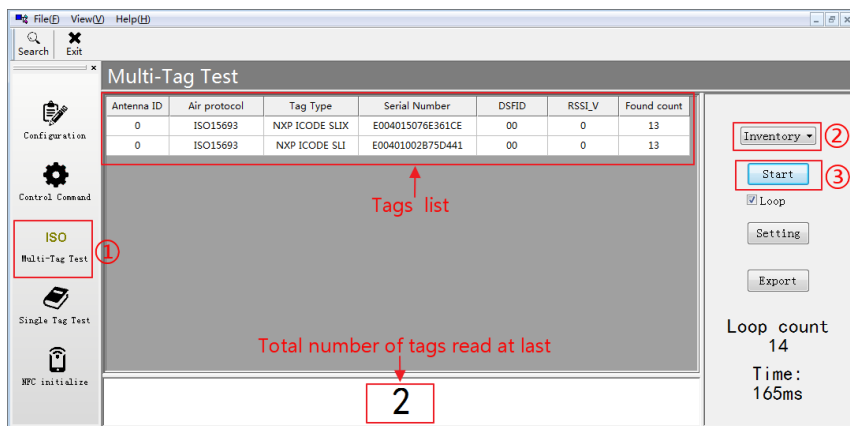

Figure 13 Multi-Tag inventory test steps
Click "Multi-Tags Test" after starting R-Tool, as shown in Figure 13, Step ①, ②, ③.